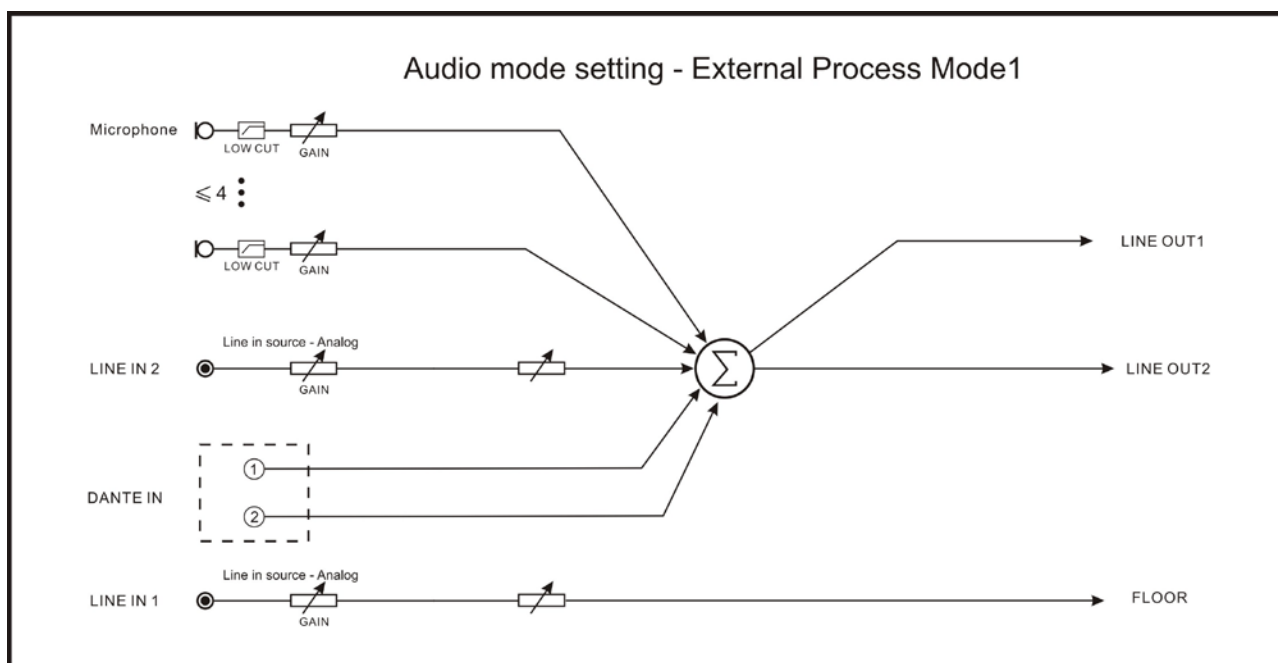

Figure 2.17 Audio mode setting – External Process Mode1
- **External Process:** If selecting analog interface for external processor, LineOut1 and LineOut2 output feature each the sum signal of Dante In + LineIn2 + active microphones; floor audio output features the audio signal of LineIn1 (Figure 2.17).